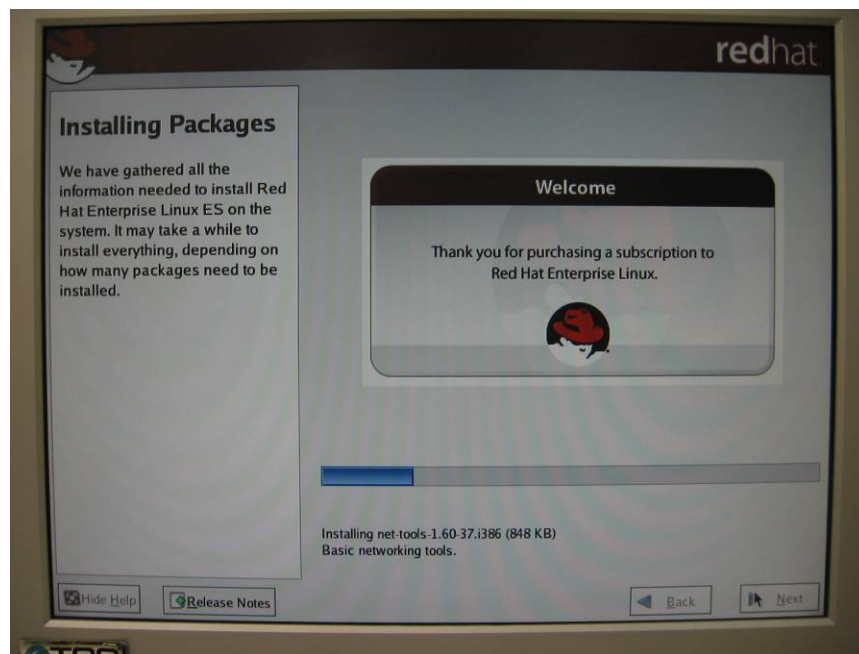

Figure 5-22 Still Installing Buttons are disabled.
11. Set boot order as follows: **DVD (IDE PS)**, **RAID (AAR-3805)**, **LAN (IBA GE)** and finally the **EFI Shell**. (Figure 5.22).